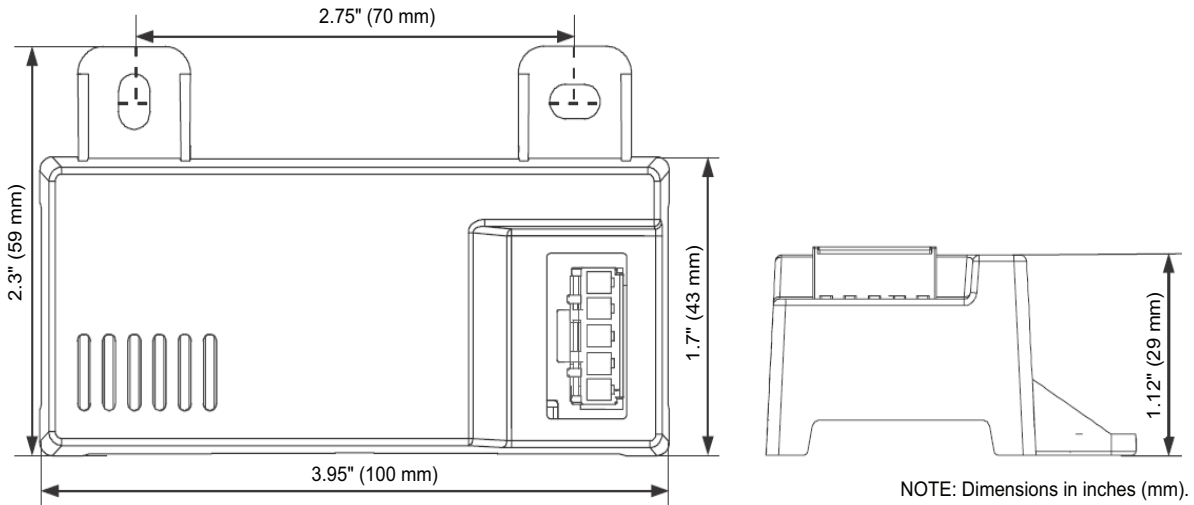
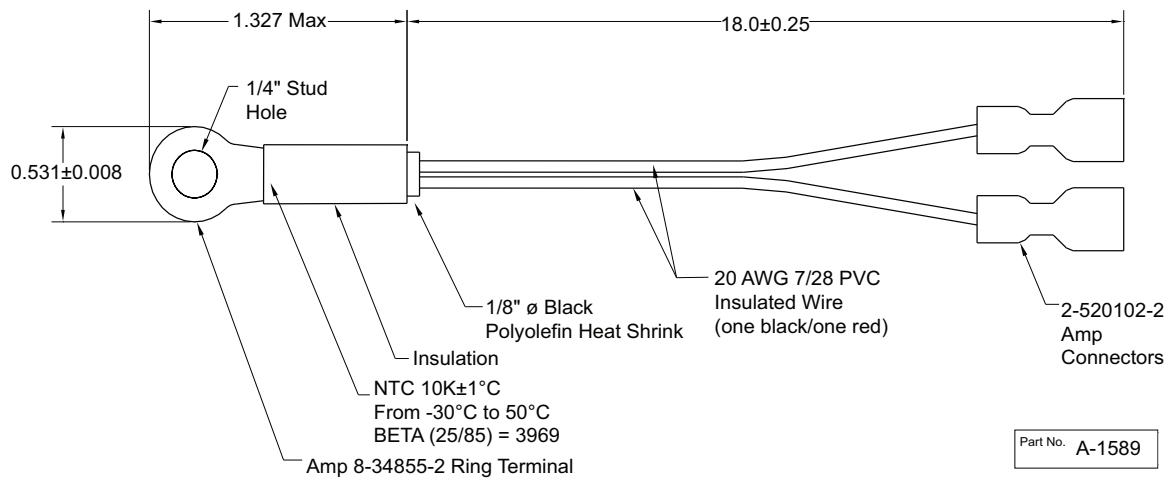
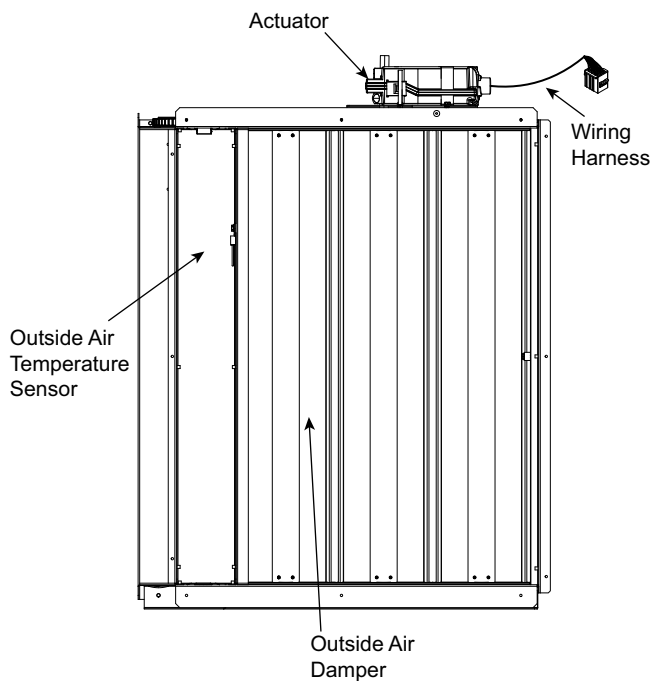

Fig. 78 – HH57LW001 Dimensional, Connection and Switching Information
Fig. 79 – HH79NZ039 Dry Bulb and Mixed Air Sensor Wiring
Fig. 80 – EconomizerONE Component Locations (CRECOMZR108A00 Shown)
When using the HH57LW001 enthalpy sensor (see Fig. 78) for outside air changeover, the existing HH79NZ039 dry bulb sensor (see Fig. 79) must be removed. The enthalpy sensor will be mounted in the same location as the dry bulb sensor (see Fig. 80). When the enthalpy sensor's OA (Outside Air) temperature, enthalpy, and dew point are below their respective setpoints, the outside air can be used for free cooling. When any of these are above the setpoint, free cooling will not be available. Enthalpy setpoints are configurable and create an enthalpy boundary according to the user's input. For additional details, see Fig. 81-82 and Table 32.
The optional enthalpy control sensor (P/N: HH57LW001) communicates with the POL224 economizer controller using the 5-wire harness, 48TC005213. The HH57LW001 sensor can be used as a single outside air enthalpy, a differential return enthalpy, or a differential return temperature sensor. Refer to the base unit control wiring diagrams found earlier in this book to wire the HH57LW001 enthalpy sensor for each option. Use Fig. 78 and Table 34 on page 62 to locate the wiring terminals for each enthalpy control sensor.
Economizers are shipped standard with an HH79NZ039 outside air dry bulb sensor (see Fig. 79). System default setting (high temp limit) is 63°F (17°C) and has a range of 48°F to 80°F (9°C to 27°C). Sensor is factory installed on economizer.
If installing the optional HH57LW001 enthalpy sensor, the HH79NZ039 dry bulb outside air sensor must first be removed. Wire sensor to harness 48TC005213 and the (5) wires from the harness to the EconomizerONE harness in the return air chamber. Harness 48TC005213 has a 5-pin plug that connects directly to the HH57LW001 enthalpy sensor. Refer to the base unit control wiring diagrams earlier in this book for wiring connections. Refer to Fig. 78 and Table 34.